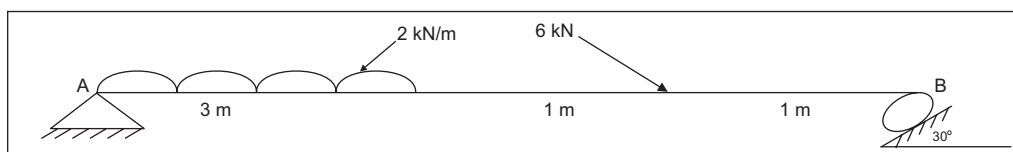

Fig. 4
2.23 Find the support reaction for a beam shown in fig. 4.